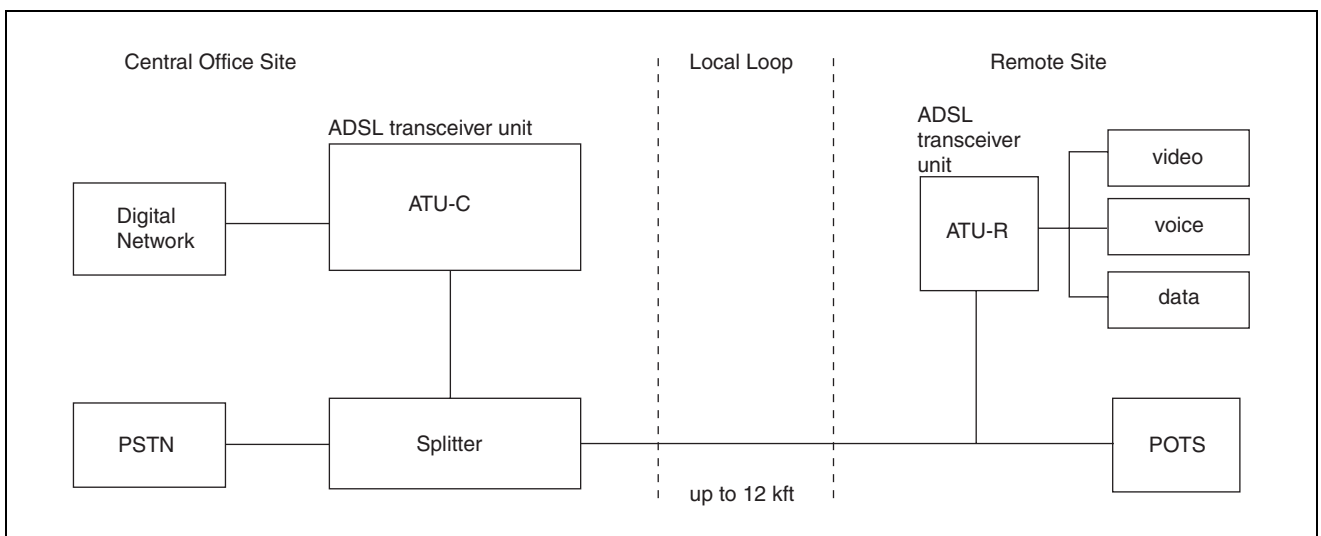
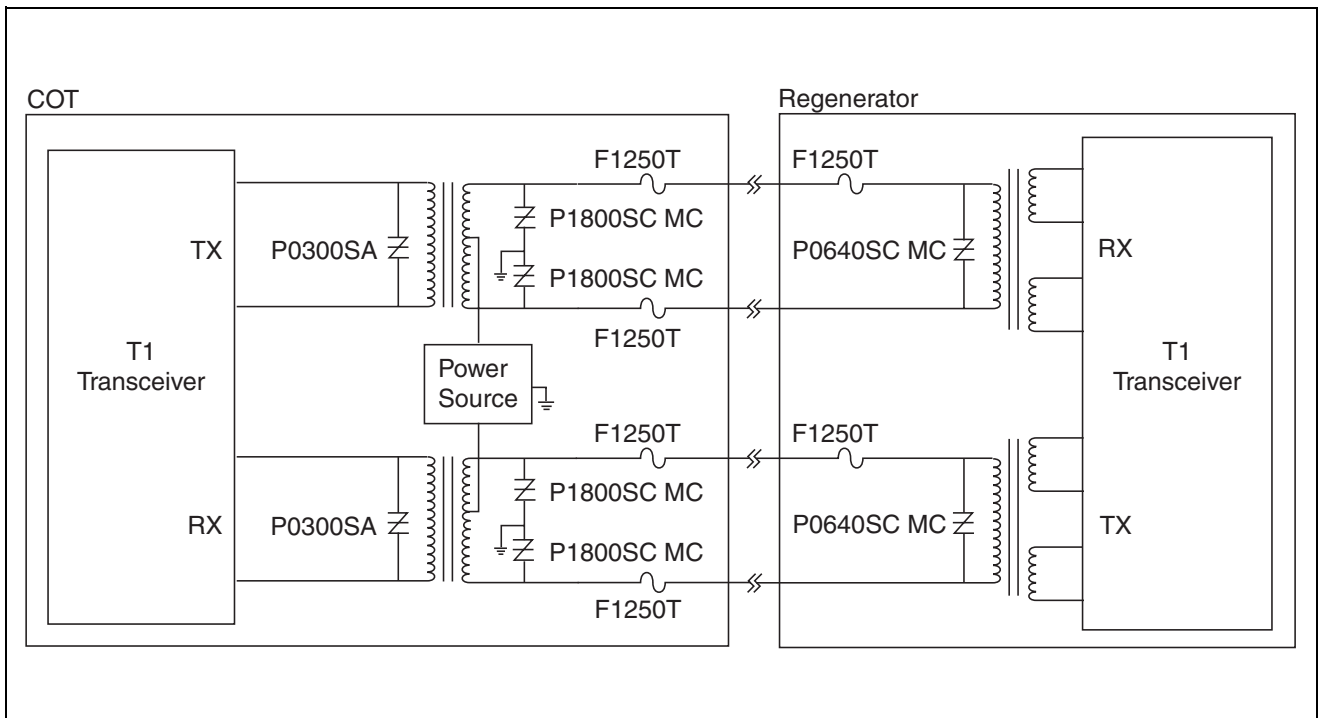

Figure 3.7 ADSL Overview
Figure 3.17 T1/E1 Protection
Transmission equipment should be protected against overvoltages that can exceed 2500 V and surge currents up to 500 A. In Figure 3.7 through Figure 3.17, *SIDACTor* devices were chosen because their associated peak pulse current (I_{PP}) rating is sufficient to withstand the lightning immunity tests of GR 1089 without the additional use of series line impedance. Likewise, the fuse shown in Figure 3.7 through Figure 3.17 was chosen because the amps^2time (I^2t) rating is sufficient to withstand the lightning immunity tests of GR 1089, but low enough to pass GR 1089 current limiting protector test and power cross conditions (both first and second levels).
Asymmetric Digital Subscriber Lines (ADSLs) employ transmission rates up to 6.144 Mbps from the Central Office Terminal (COT) to the Remote Terminal (RT) and up to 640 kbps from the RT to the COT at distances up to 12,000 feet. (Figure 3.7)
Longitudinal protection is required at the Central Office Terminal (COT) interface because of the ground connection used with loop powering. (Figure 3.17) Two P1800SC MC *SIDACtor* devices provide overvoltage protection and two F1250T *TeleLink* fuses (one on Tip, one on Ring) provide overcurrent protection. The P1800SC MC device is chosen because its V_{DRM} is compliant with TIA-968 regulations, Section 4.4.5.2, "Connections with protection paths to ground." These regulations state:
For the transceiver side of the coupling transformer, additional overvoltage protection is shown in Figure 3.17 using the P0300SA *SIDACTor* device. When an earth ground connection is not used, only metallic protection is required. Metallic protection is satisfied using a single P0640SC MC *SIDACTor* device across Tip and Ring and a single F1250T *TeleLink* fuse on either Tip or Ring.